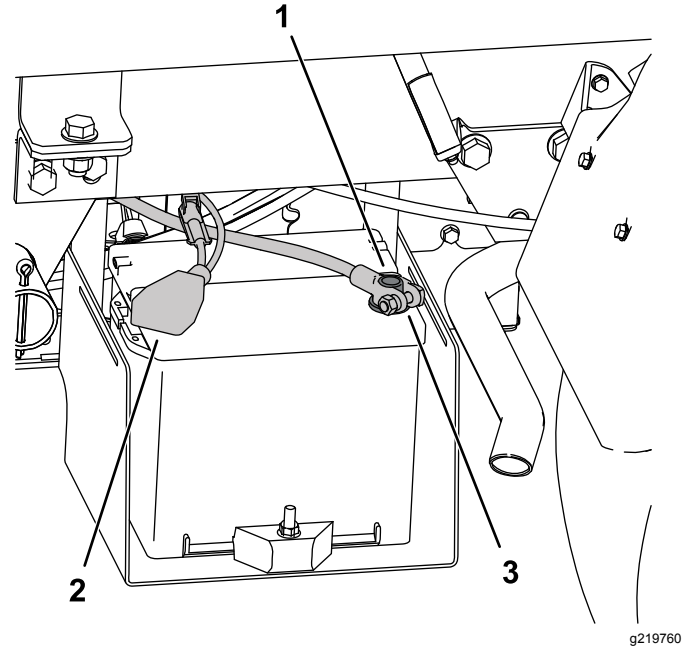

Figure 6
3. Loosen the nuts on the clamps to remove the negative cable (black) from the negative (-) terminal and the positive cable (red) from the positive (+) terminal of the battery (Figure 6).